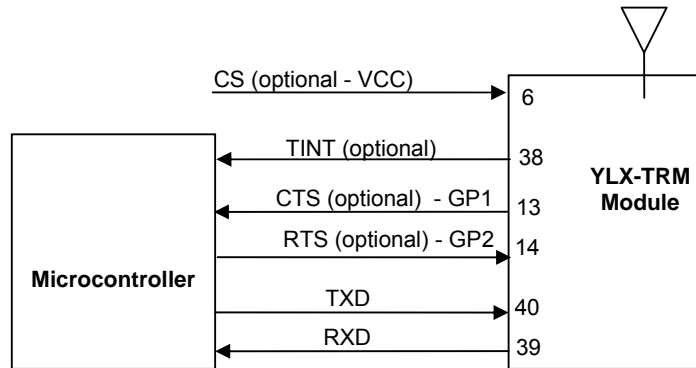

Figure 5.1: Interface through UART
- Through its asynchronous serial port, the module can communicate with any UART (Figure 5.1)
The serial UART communication consists of two UARTs connected each other, as described in figure 5.1, with compatible parameters (baud rate, parity, start and stop bits) flow control to have successful communication.